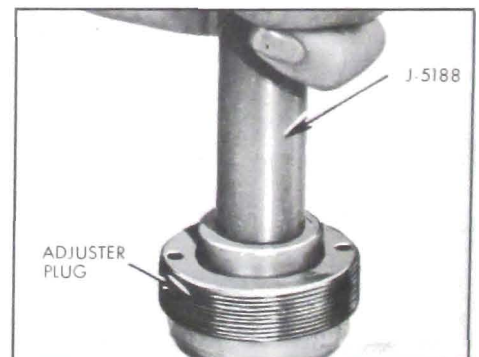

Figure 8-46—Installing Stub Shaft Seal
2. Lubricate new stub shaft seal with automatic transmission oil and install seal with spring in seal toward adjuster plug using Tool J-5188. See Figure 8-46. Install seal only far enough in plug to provide clearance for dust seal and retaining ring. Place new dust seal with lip up in plug, then